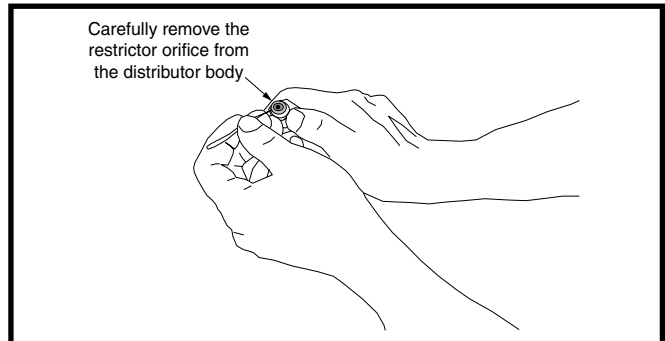

Figure 7. Removal of Orifice
4. Insert a light-gauge wire hook between the distributor body and the restrictor orifice while being careful not to scratch either part. Carefully remove the restrictor orifice from the distributor body. See Figure 7.